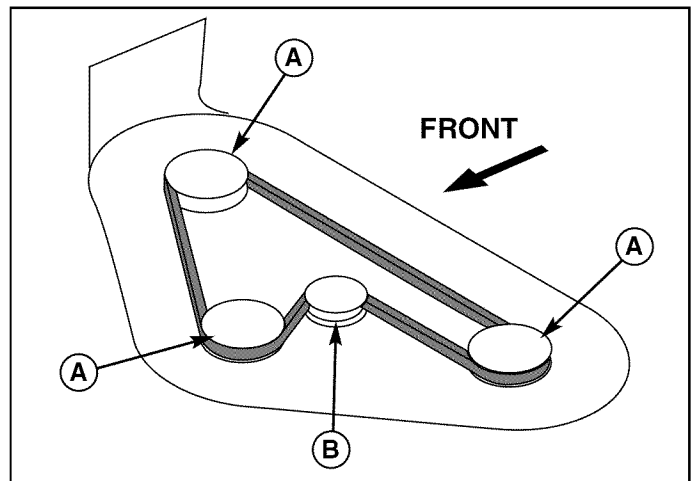

Figure 57. Mower Deck Drive Belt Routing All Models
6. Install a new belt as shown in Figure 57. Make sure that V-side of belt runs in arbor pulley (A) grooves and flat side of belt runs against idler pulley (B).